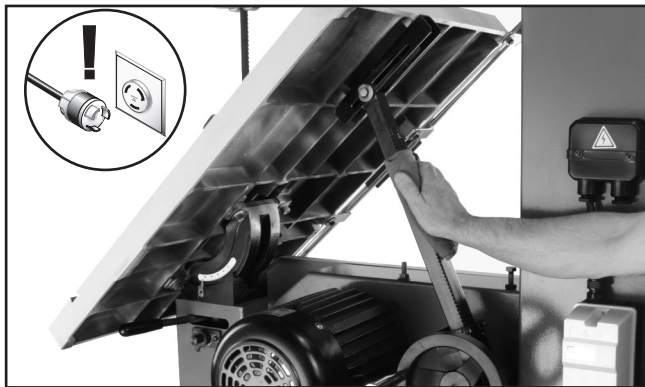

Figure 59. Table tilt rack and pinion assembly.
3. Move the table up to its maximum 45° angle and wipe (**Figure 59**) off all existing grease and sawdust buildup from the rack.